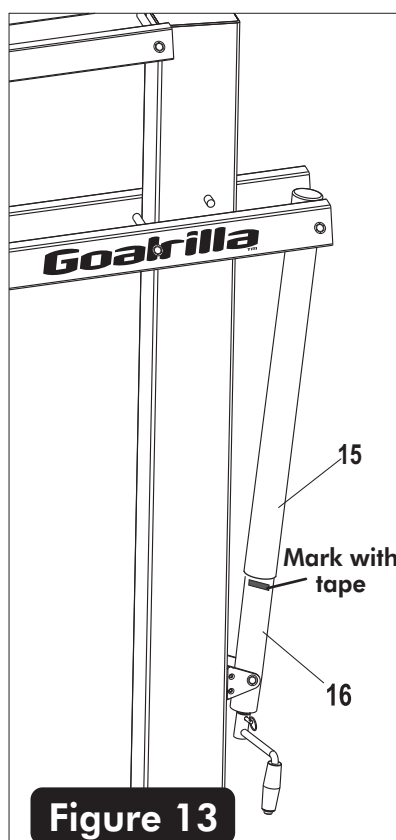

Figure 13
22. Using tape - mark the **side** of the steel actuator (#16) just under the plastic actuator sleeve (#15) at this 10 ft rim height. See **Figure 13**.